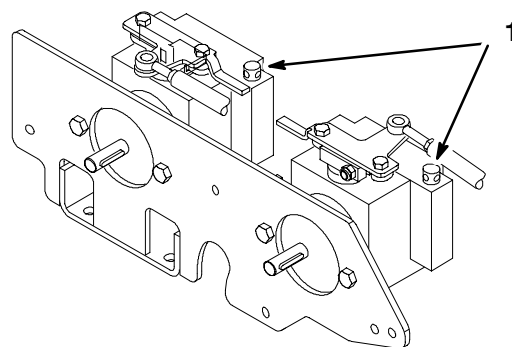

Figure 22
2. Rotate pump by-pass valves counterclockwise 2 turns. This allows hydraulic fluid to by-pass the pump enabling the wheels to turn freely (Fig. 22).
1. Turn the by-pass valves clockwise until they are tight. Do not over tighten (Fig. 22).